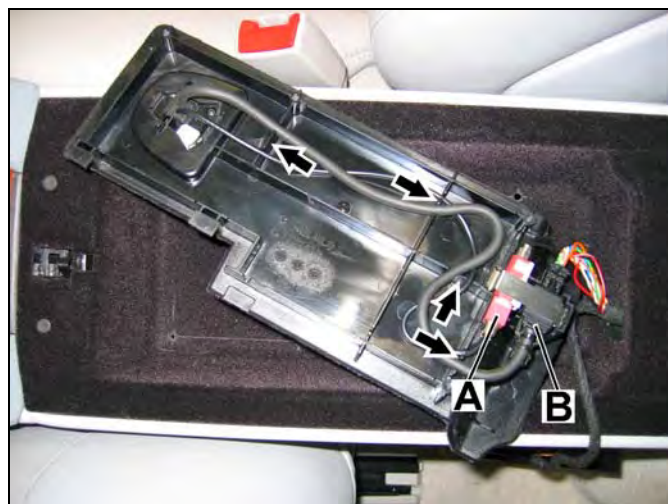

Figure 26
- Connect the FAKRA antenna male connector of the contact plate to the FAKRA female connector of the center console harness (A, Figure 26).
- Connect the power supply male connector of the contact plate to the power supply female connector of the center console harness (B, Figure 26).
- Route the FAKRA antenna and power supply cables through the cable manager (Arrows, Figure 26) on the false floor underside.